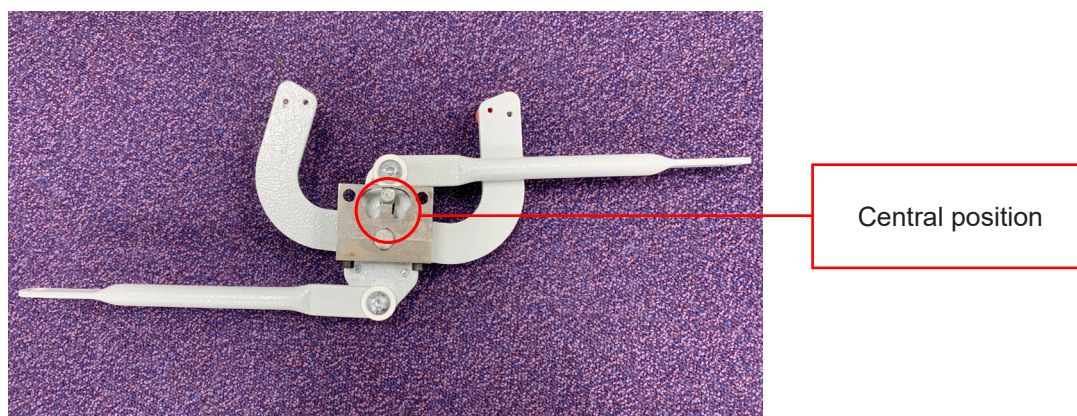

Fig. 2
3. Carefully position the leg operating mechanism to the central position so that both leg mechanism securing fixings are accessible through the service holes in the chassis. See figs. 2 and 3.
2. Carefully position the leg operating mechanism assembly in the central position to enable access to the M8 securing screws. See figs. 2 and 3.